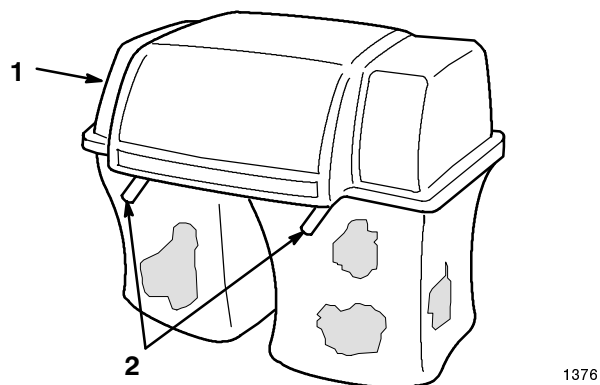

Figure 23
- Raise the bagger top and remove the grass bags from the bag frame (Fig. 23).